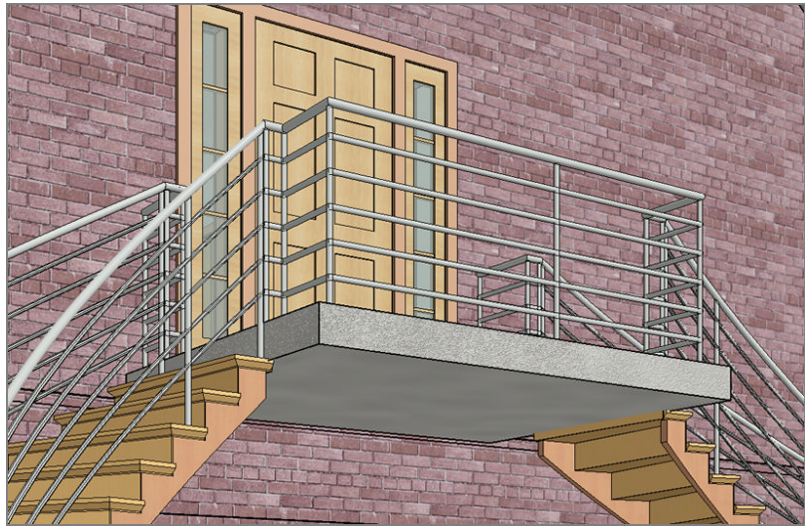

FIGURE 10.53: The completed landing
11. Add two more railings between the stairs and the brick wall. Your stairs should look like Figure 10.53.